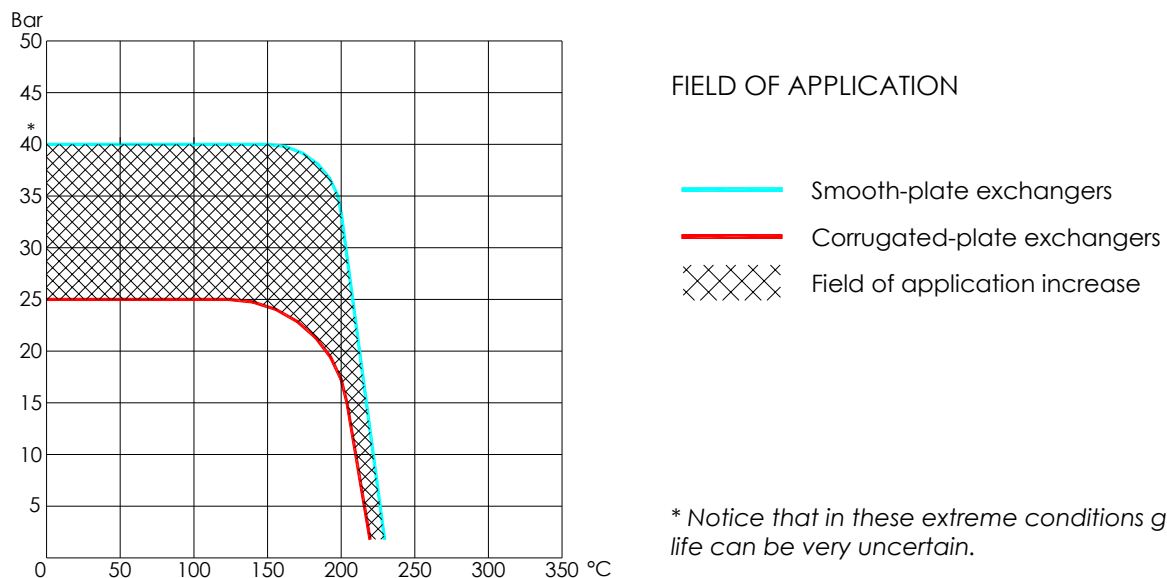
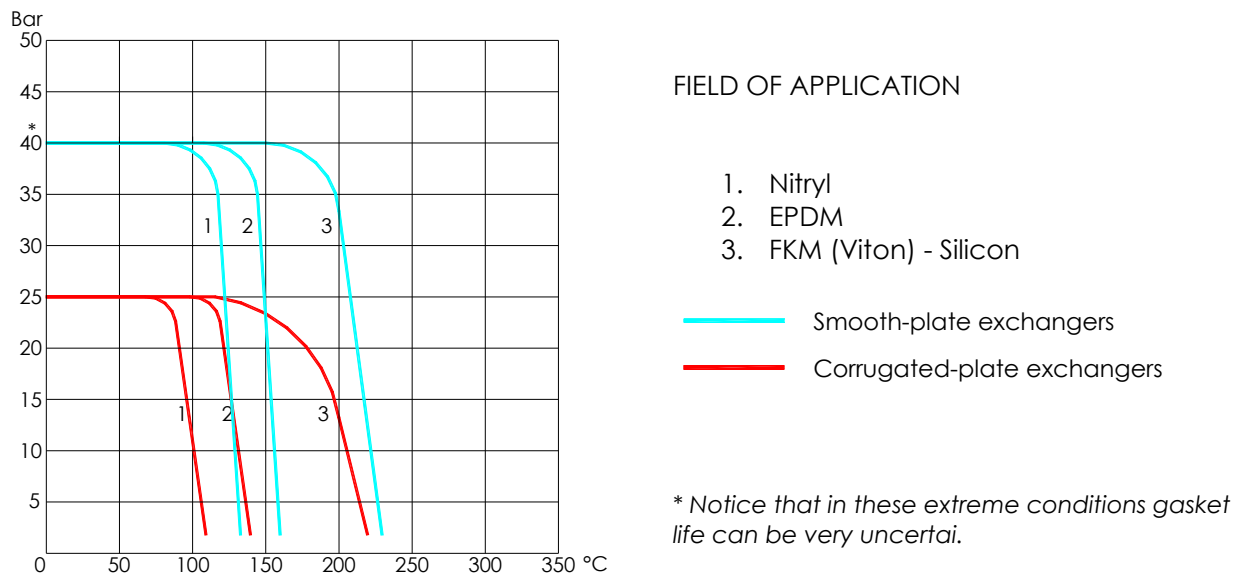

Fig. 8
Fig. 9
Plate heat exchangers can be used in an enormous variety of applications, since they offer compactness, high efficiency, easy maintenance, the possibility to create complex circuit designs, and, last but not least, increasingly competitive costs. Therefore, this type of heat exchanger is increasingly used frequently in district heating, energy recovery, refrigeration, chemical, pharmaceutical, and food processing systems, and in civil engineering. The original construction solutions developed by TECHNO SYSTEM through years of experience in the sector have further expanded the field of application of plate heat exchangers by offering increased resistance to differential and absolute pressures - although there remains the limit determined by the admissible operating temperatures for the rubber gaskets (see Fig. 8 e Fig. 9).
These values refer to operating pressures not exceeding 25 Atm, with TECHNO SYSTEM heat exchangers with smooth plates and turbulators. With exchangers with corrugated plates the maximum operating temperatures are much lower (see Fig. 8).
A) Diagram in Fig. 9 illustrates the temperature/pressure ranges in which plate heat exchangers can be safely used with different types of gaskets. It is clear that the performance of the TECHNO SYSTEM smooth-plate exchangers with turbulators is vastly superior to that of the corrugated-plate exchangers.
Compatibly with the temperature and pressure ranges (see graph, Fig. 8), the TECHNO SYSTEM plate heat exchangers are suitable for use, and can offer singular advantages, in the majority of the applications examined below.